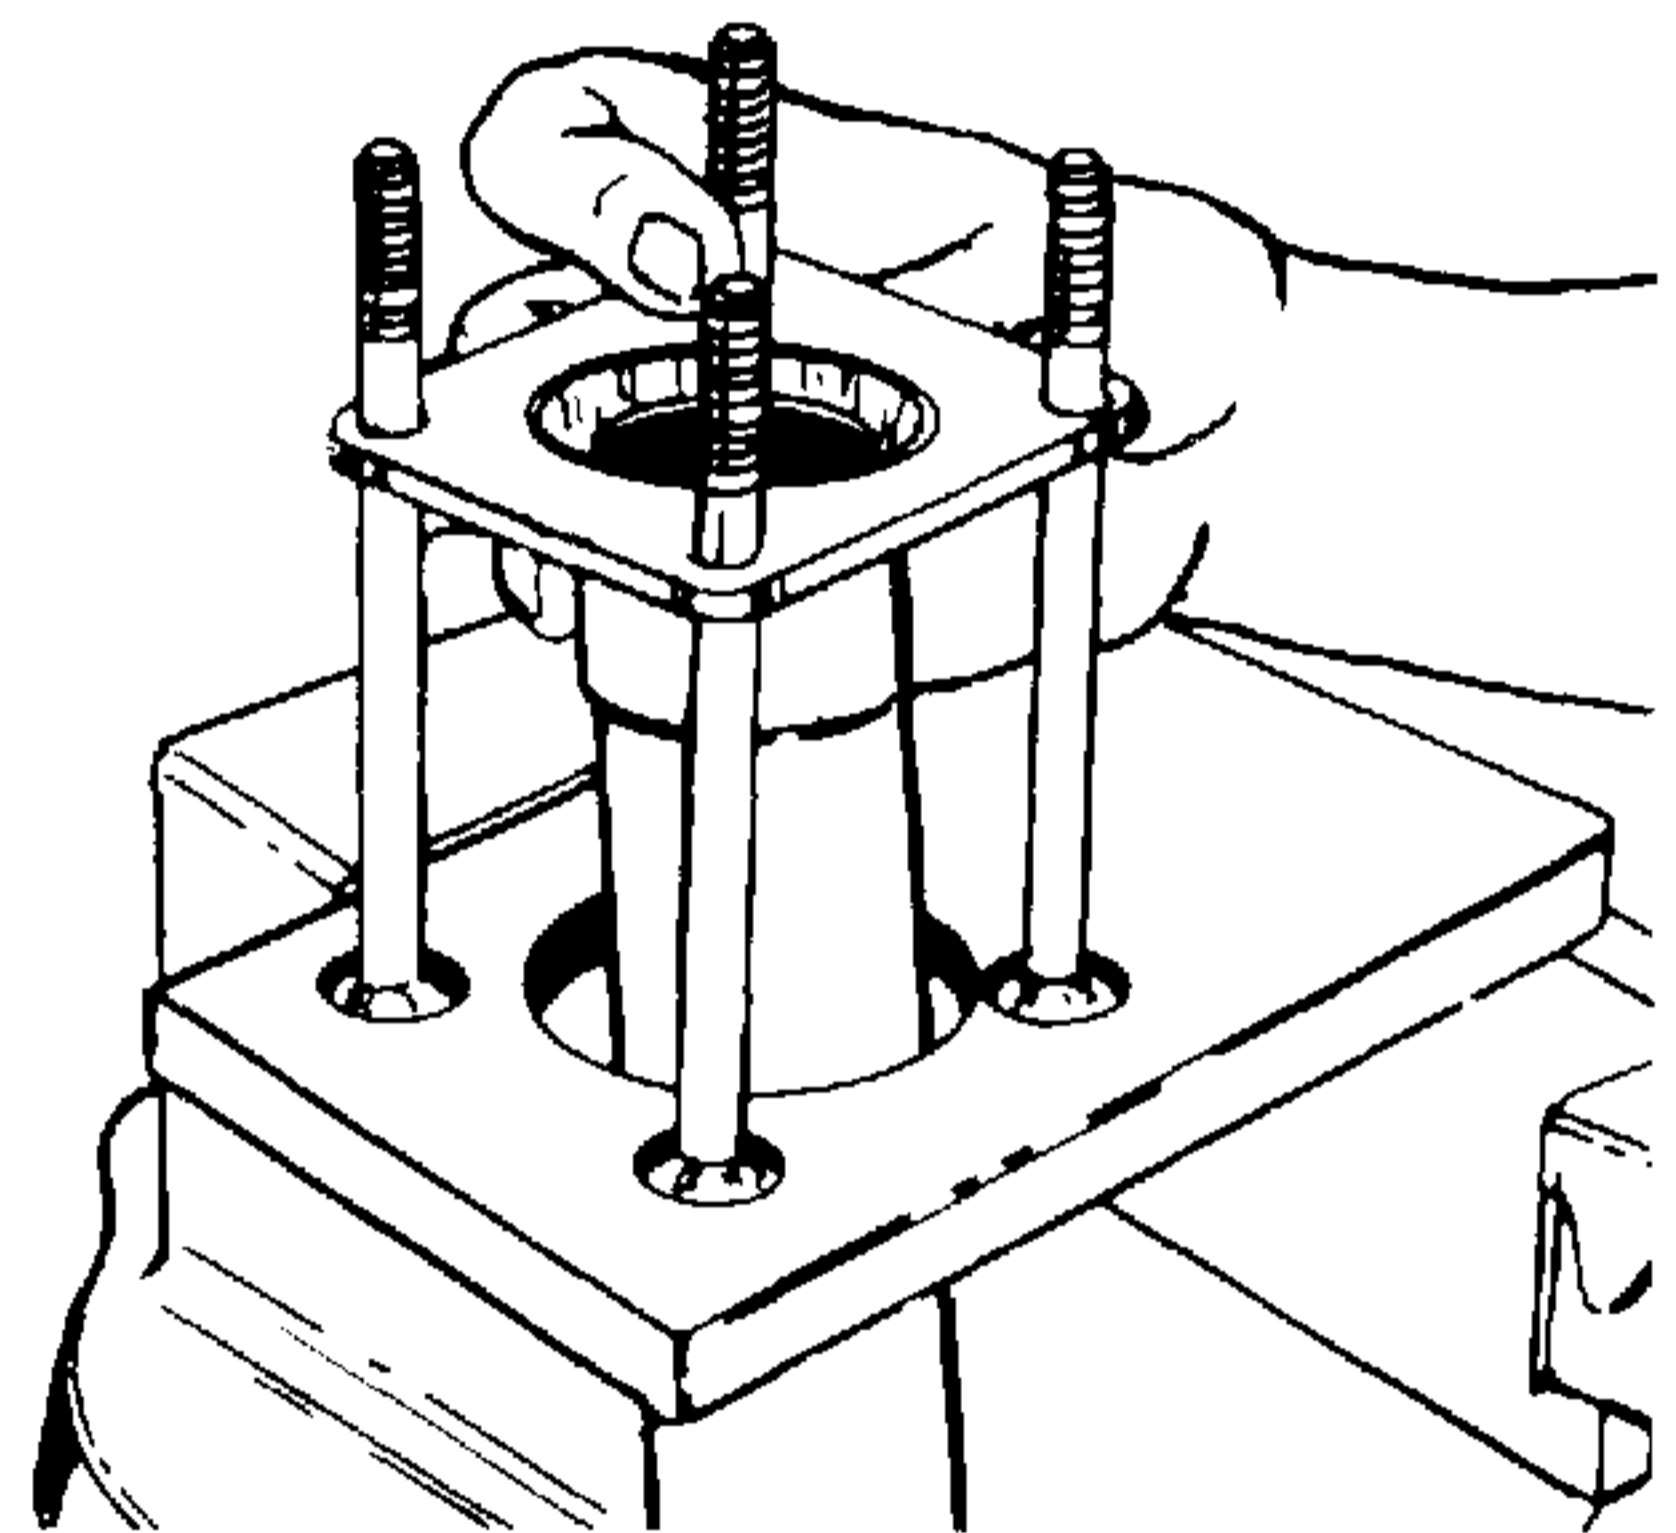

Figure 4-48. Installing Upper Cover and Tube Assembly.
3. Apply clean grease to bearing (36, Figure 4-1) and stack upper cover and tube assembly (35) on the four special bolts (38) with the tube pointing down through the hole in the fixture. Make sure the square shoulders of the bolts engage the square holes in the upper cover. See Figure 4-48.